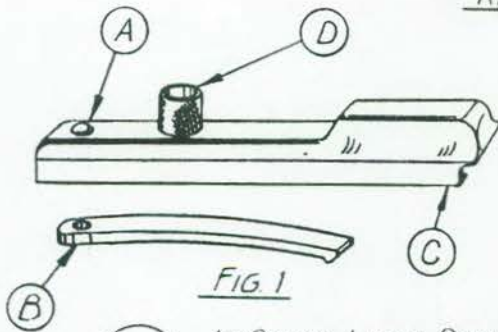

FIG. 1
39 IF COVER LATCH SPRING (B), FIGURE 1, HAS LOST ITS TENSION OR IS BROKEN, REMOVE RIVET (A). HANDLE (D) IS ALSO RIVETED ON FROM UNDERSIDE AND MAY BE REPLACED IF NECESSARY.